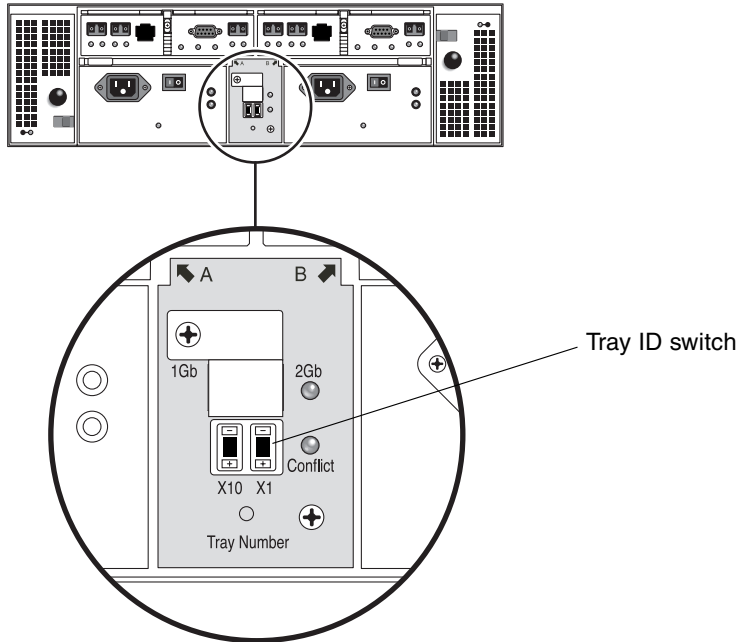

FIGURE 2-28 Tray ID Switch
1. Locate the Tray ID switch at the back of the controller enclosure, between the two power supplies (FIGURE 2-28).